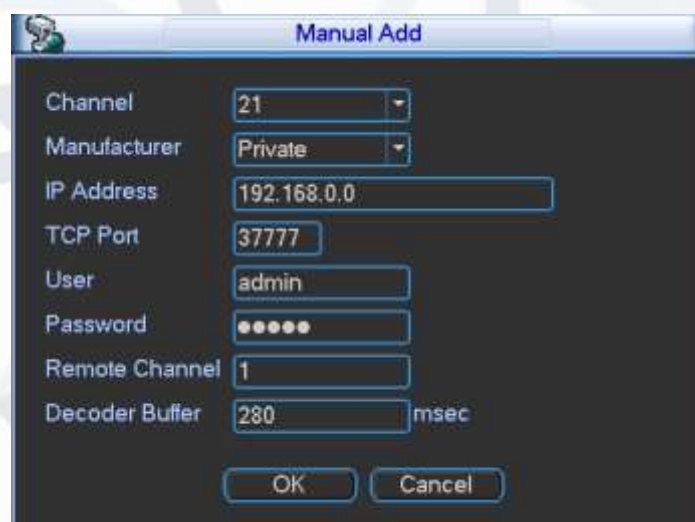

Figure 5-19
Click the Manual Add button; you can go to the following interface. See Figure 5-19.
- You can not add two or more devices in the Manual Add interface (Figure 5-19). Click OK button, system connects to the corresponding front-end device of current channel on the interface.